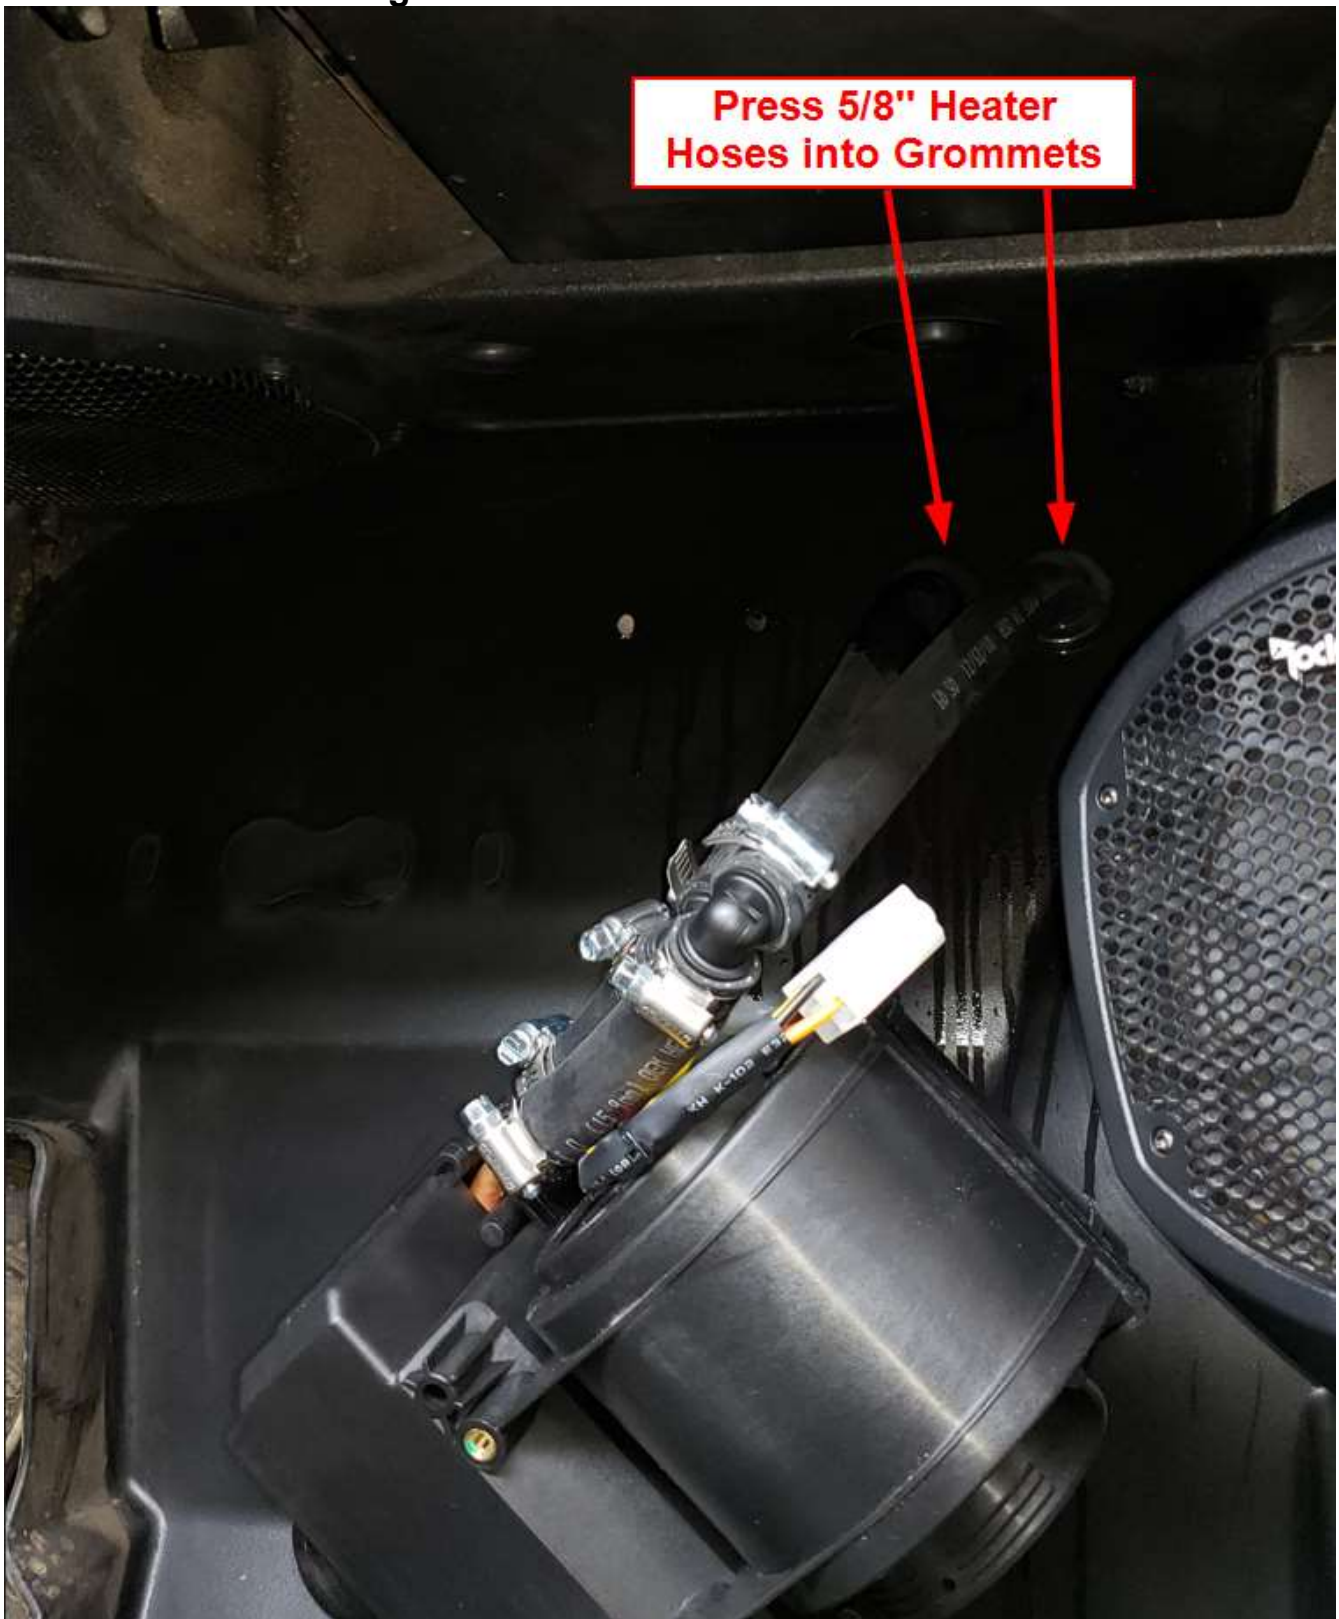

Figure 17
- g. Insert the (2) 12" pieces of 5/8" Heater Hose into the 1 1/4" Grommets as shown in Figure 17. Use soapy water or windex to lubricate the hose and Grommets for easier install. Press the hoses into the firewall until the (4) threaded studs on the Heater Bracket can be pushed through the Firewall.